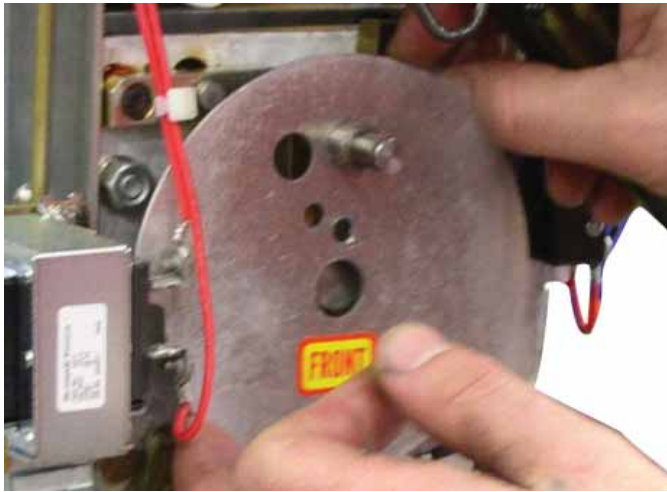
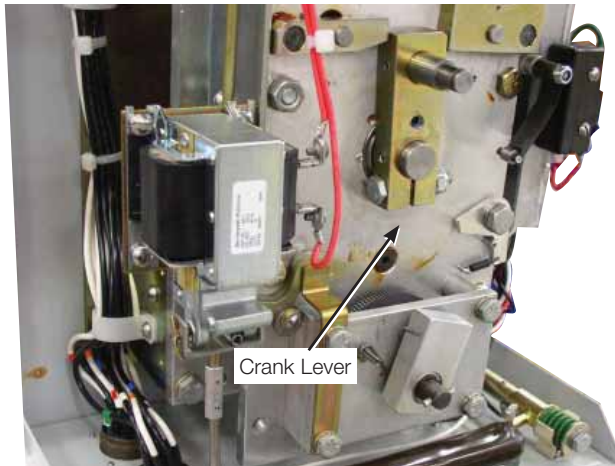

Figure 27.
Figure 28.
- d. Carefully remove the cam plate (Figure 27) to expose the crank lever (Figure 28).